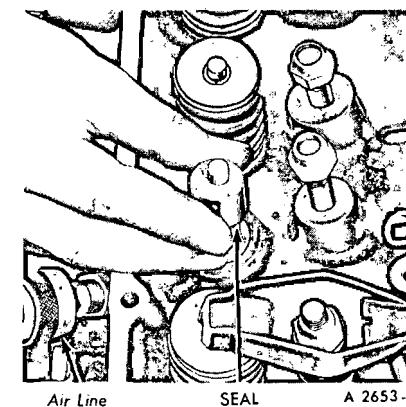

FIG. 36—Valve Stem Seal Removal or Installation
7. Remove and discard the valve stem seal (Fig. 36). If air pressure fails to hold the valve in the closed position during this operation, it can be presumed that the valve is not seating or is damaged. If this condition occurs, remove the cylinder head for further inspection.